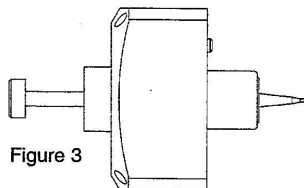

Figure 3
- 4.5. Remove needle (13) and re-insert from opposite end (See Figure 3).